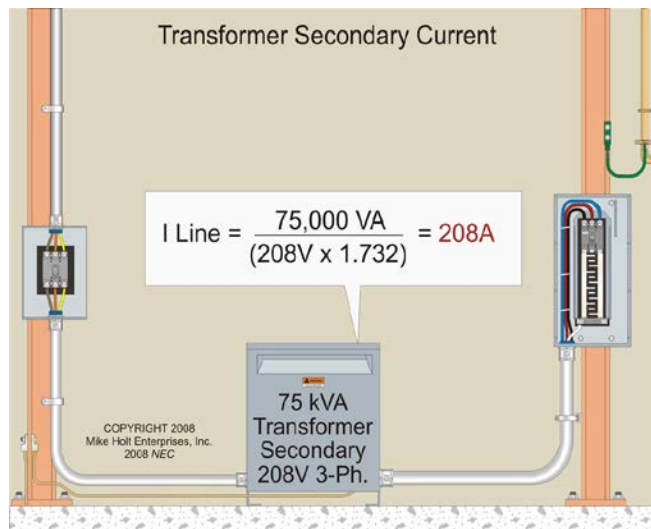

Figure 12-51
Step 1: Determine the secondary current rating. **Figure 12-51**